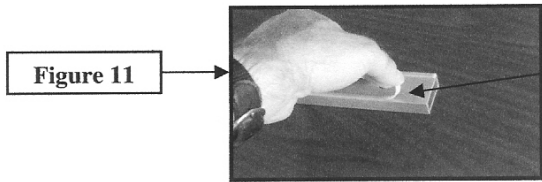
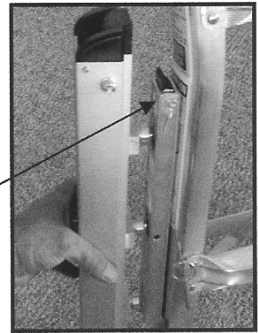

Figure 11
Figure 10
NOTE # 3: Ladder Rails with Rounded profiles, such as the Werner MT series (Figure 10) require strips of foam tape (enclosed), along the outermost edges of each base unit. (See Figure 11) This tape will keep unit from rocking side to side. After tape is securely fit to edges, remove backing and position over mounting holes. Push unit carefully onto rail and mount with locknuts.
2. **Position Leveler** (Figure 10 above) a few inches away from the front of the Quick Connect base unit holes. Align the 3 knobs on the back of the leveler with the 3 keyholes of the Base Unit.
3. **Insert Knobs** (See Figure 10 above) located on the back of the leveler, into the Quick Connect holes and slide leveler UP, toward the top of ladder, until it snaps into position.